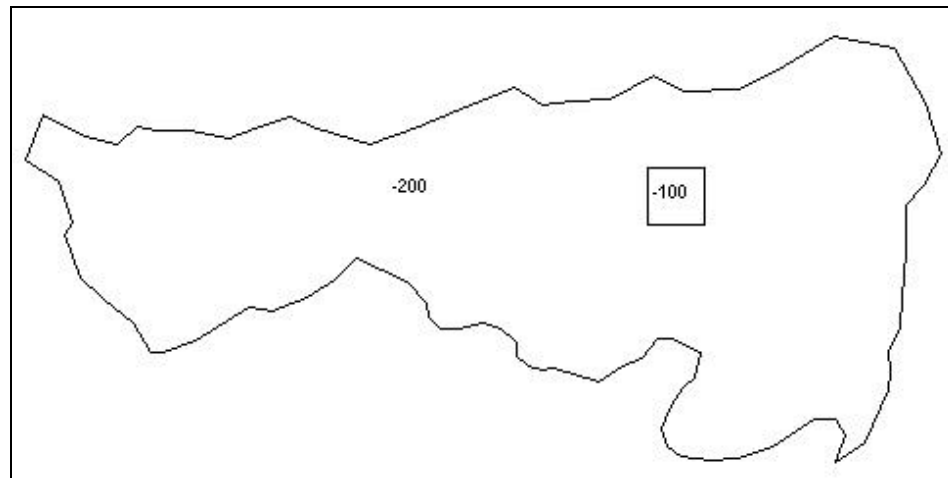

Figure 3 Recharge zones representing aquifer recharge (-200) and landfill leakage (-100)
First, set up the recharge zones. The recharge polygons are shown in Figure 3. Define a parameter for both the small polygon defining the landfill and the larger polygon encompassing the rest of the site. The key values associated with the two zones are shown on the polygons in the figure. The “-200” zone represents recharge to the aquifer from rainfall. The “-100” zone represents leakage from the landfill to the aquifer.
2. Using the **Select Polygon**  tool, double-click on the landfill polygon (see Figure 3) to bring up the *Attribute Table* dialog.